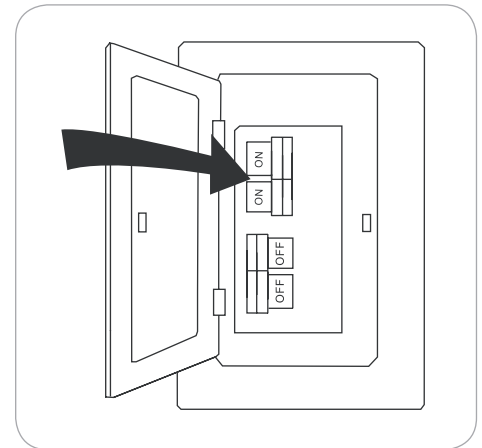

Figure 5.12
12. Turn on power to fan at breaker box and the wall switch (Figure 5.12). Assembly is complete.